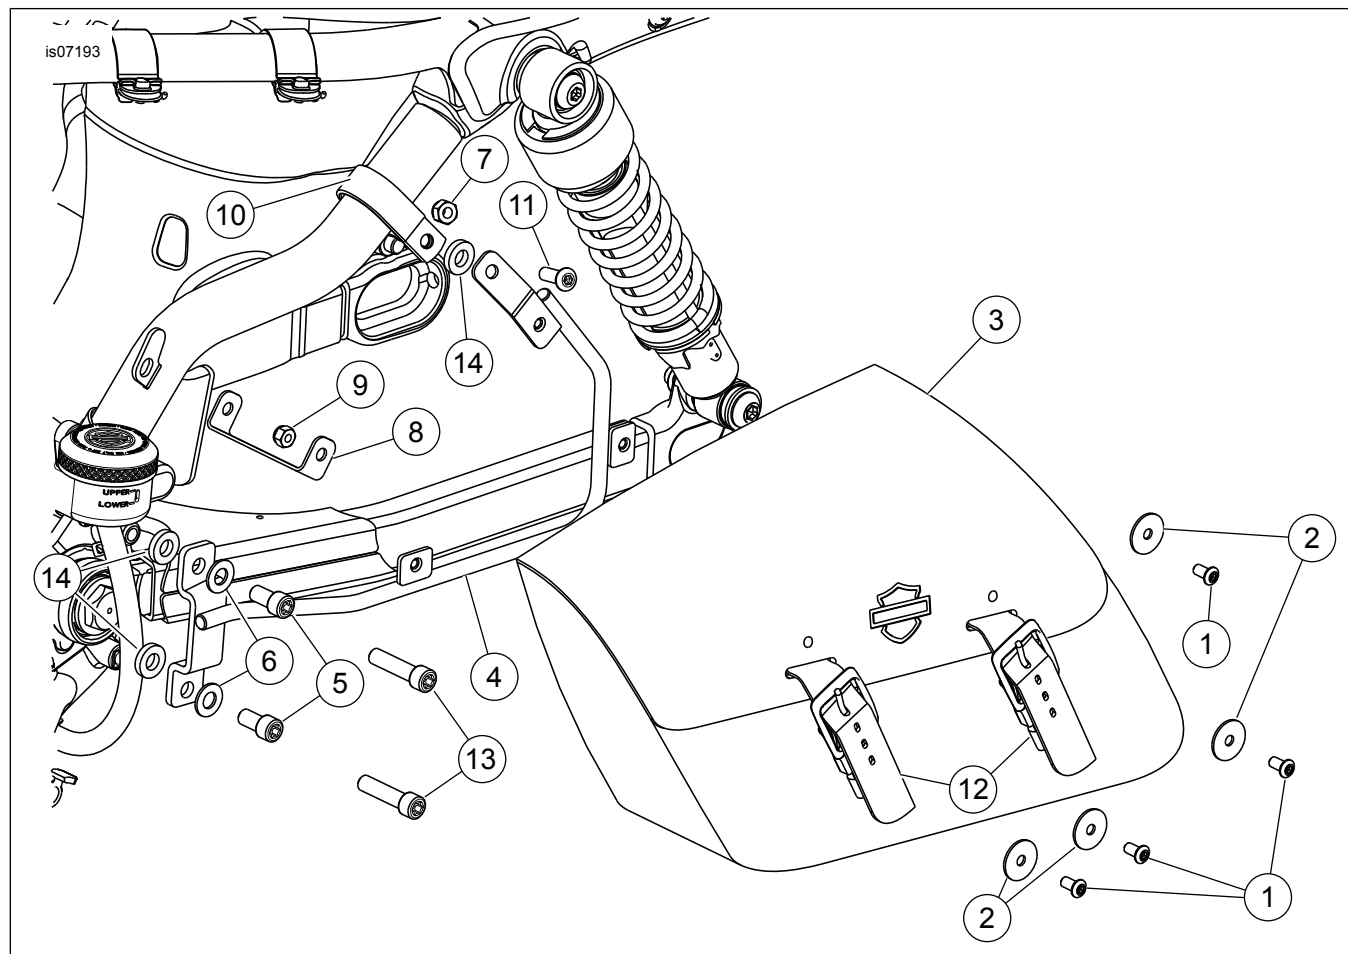

Figure 3. Service Parts: Sportster Swingarm Bag (2013 and earlier shown)
See Figure 3 and Table 1.
1. See Figure 3. Install lower mounting bracket (4) to frame at left side passenger footrest location.
2. **2013 and earlier models:** Attach bracket using short lower mounting screws (5) and washers (6). Tighten.